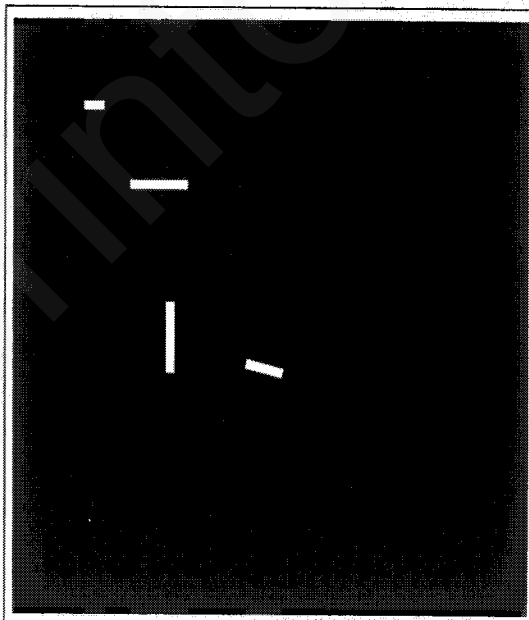

Figure 3. Spot deletions
- The deletions appear localised to small areas of print, and may appear as random spot deletions (Figure 3).